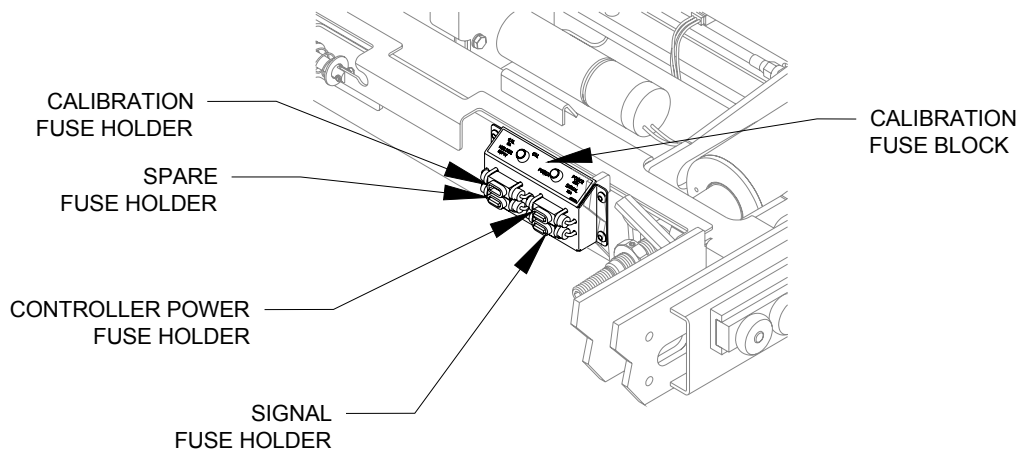

FIGURE 2-3: CALIBRATION FUSE HOLDER
- b. Refer to **Figure 2-3**. The calibration fuse block is located at the right front of the carriage frame. Remove Calibration Caution card sign (if applicable). Remove power to the controller by removing the fuse from the controller power fuse holder.